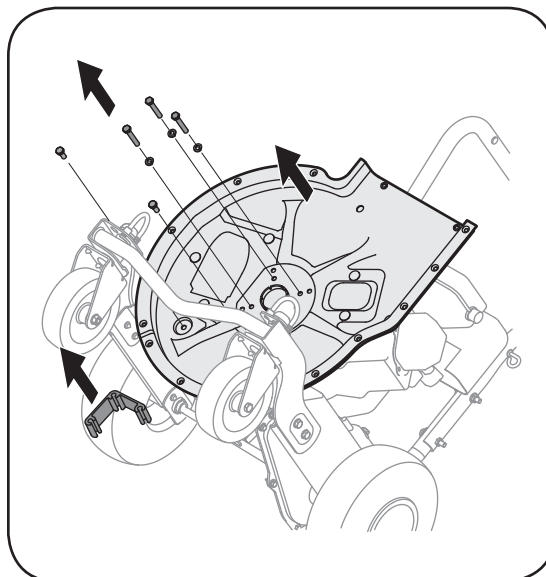

Figure 16
14. Remove the inner housing and mounting adapter by removing the five hex bolts and two hex nuts. See Figure 16.
19. Place the inner housing against the mounting adapter and the frame. Secure with five hex bolts and two hex nuts previously removed. Refer to Figure 16.